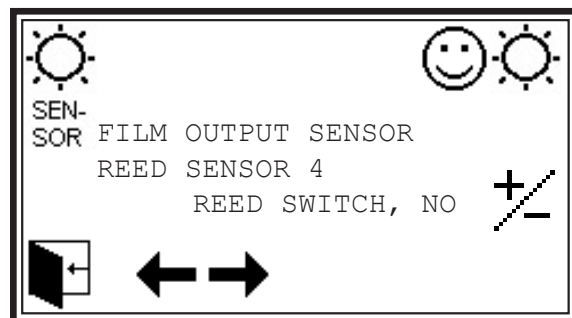
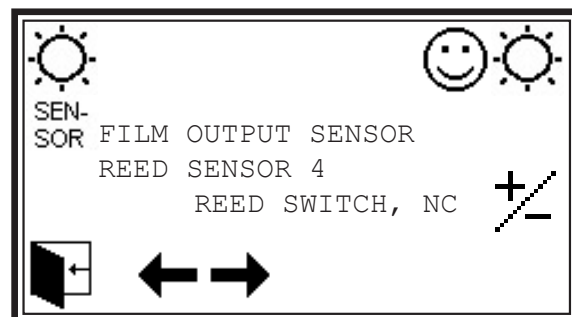

Fig 3. Configuration activated on SW 2.11
Fig 4. Configuration activated from SW 2.12
6. Use the left and right arrows until the reed sensor 4 or 6 (film output sensors) appears. See fig. 3. Use +/- to select »Reed switch, NO« (software version 2.11) or »Reed switch, NC (software version 2.12). See fig. 4.